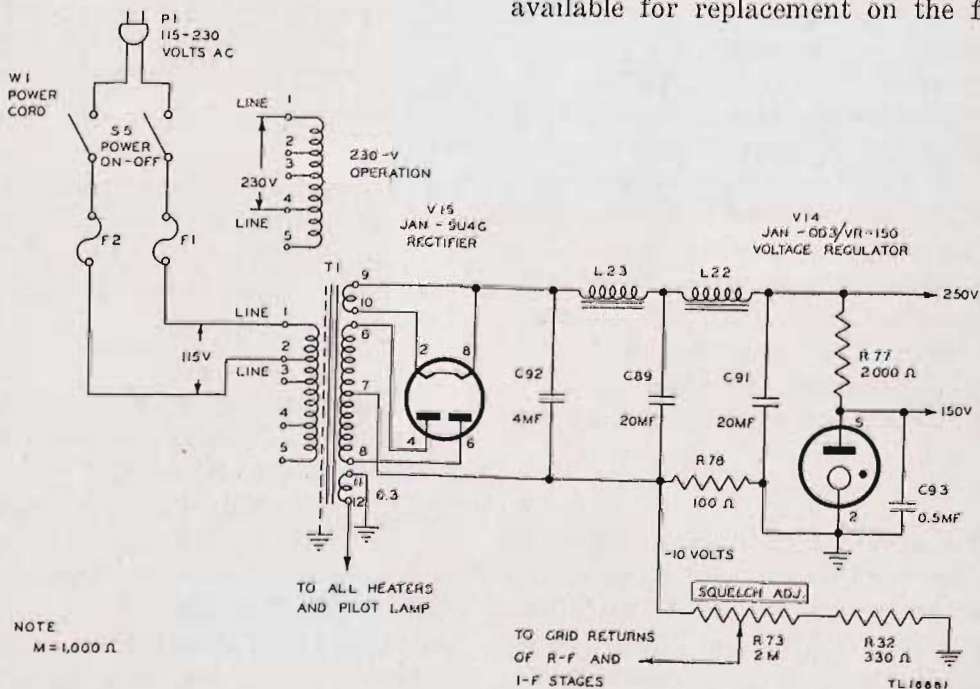

Figure 103. Radio Receiver R-48/TRC-8 (XC-3), functional diagram of power supply.
a. Rectifier. The high-voltage rectifier for the power supply is Tube JAN-5U4-G (V15) (fig. 103). The power transformer T1 is designed for either 115- or 230-volt operation (par. 50 and fig. 139). The primary is fused by F1 and F2, available for replacement on the front panel.
b. Voltage Regulator. Tube JAN-OD3/VR-150 (V14) is a voltage regulator (fig. 103). It is characteristic of this tube to maintain a con-